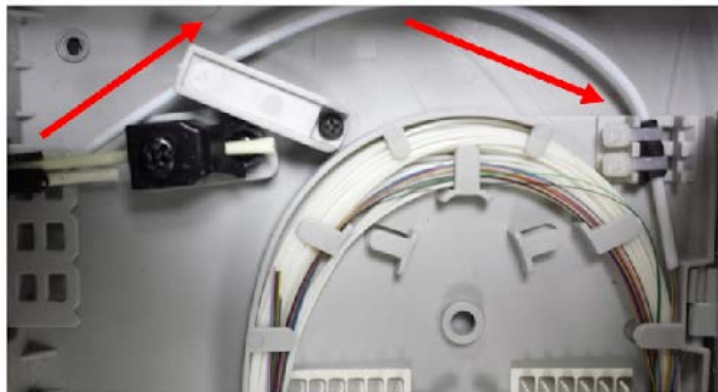

Figure 16
- 1.5.2 Route the fibers and prepare the ends for splicing (Fig. 16);